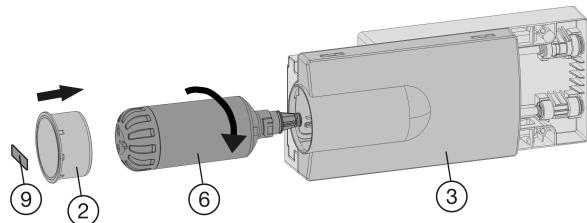

Fig. 59
- Place the tray cover Fig. 59 (3) in position.
- Insert the water filter Fig. 59 (6) and turn it approximately 100° to the right until it locks into position.
- Place the cover Fig. 59 (2) on the filter.
- Write the date of the next filter replacement on the supplied adhesive label Fig. 59 (9) and affix it to the module.